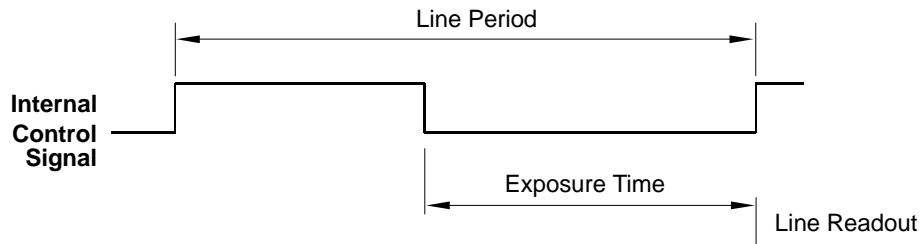

Fig. 31: Free Run, Programmable Mode
- In **free run programmable** mode, line acquisition begins on the rising edge of the ExSync signal. The pixels are exposed and charge is accumulated when the internal control signal is low. The pixel values are read out of the sensor on the rising edge of the internal control signal as shown in Figure 31.